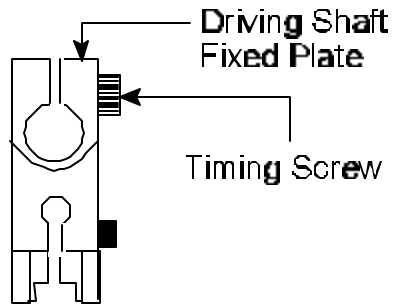

Figure 3
- Using a 3 mm Allen wrench, **loosen** timing screw allowing Take-up Lever and Turret Assembly to move independently. See Figure 3.